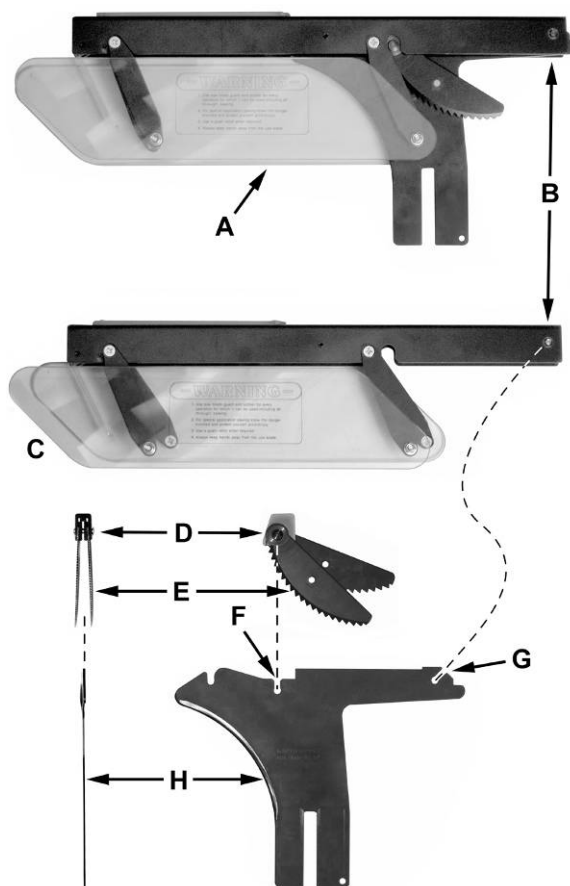

Figure 7
Referring to Figure 7:
Referring back to Figure 7:
1. Remove the *blade guard* and *pawl* (C, E, Fig. 7).